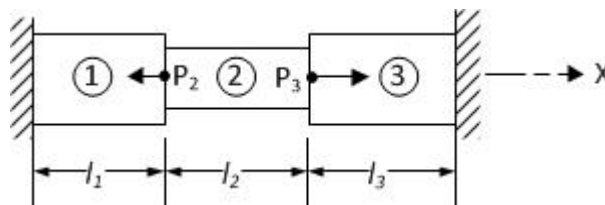

Figure 3
- Q.4 (a)** Determine the displacements of nodes for the bar as shown figure 3. Take  $P_2 = P_3 = 20 \text{ kN}$ ,  $\Delta T = 30 \text{ }^\circ\text{C}$ . **07**